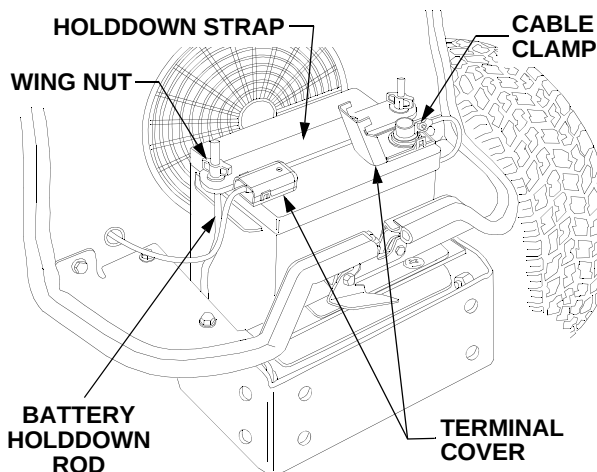

Figure 32
- Remove the two wing nuts and the battery holddown strap from the battery holddown rods. See Figure 32.
- Spread the locking clips on the sides of the terminal covers and lift the tops of the covers to expose the battery connections. See Figure 32